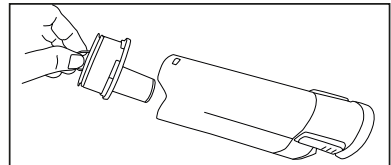

Fig. 2
6. Align the filter cartridge to the dust bin and slide into place (Fig. 2).